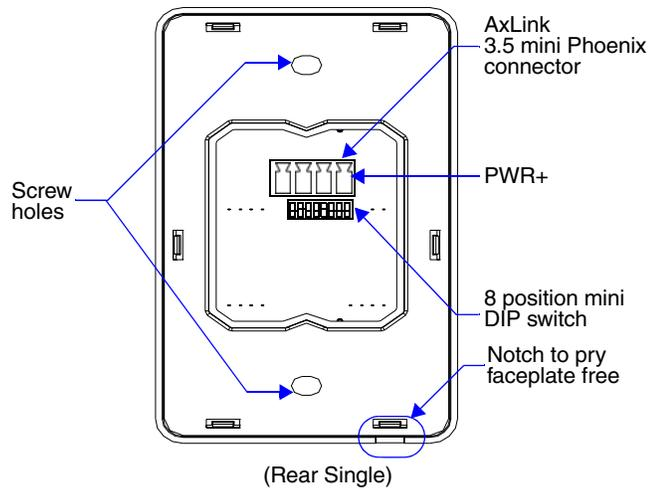

FIG. 12 Location of key components on the Mio Modero IR circuit board
Set the receive AxLink device number before installing the Mio Modero IR. FIG. 12 illustrates the location of key components on the Mio Modero IR circuit board.
2. Locate the 8-position Device DIP switch (FIG. 12).
The AxLink LED, shown in FIG. 12, lights to indicate AxLink power/data status as follows: